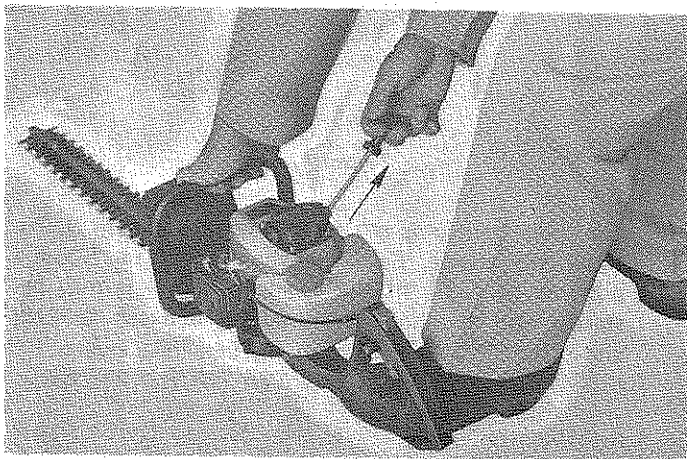

Figure 4
4. Pull the recoil starter several times. (At this time, hold the machine securely so as to keep it fixed.) (Figure 4)